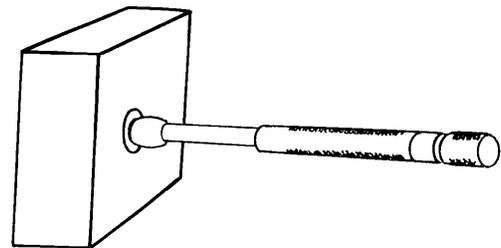

Figure 3-80. Measuring Hole with a Small Hole Gauge
(1) Insert the proper size gauge in the hole, as shown in figure 3-80.
(2) Expand the ball by turning the knurled knob in the handle until there is a slight drag of the ball on both sides of the hole.
(3) Withdraw the gauge and measure the ball with an outside micrometer.